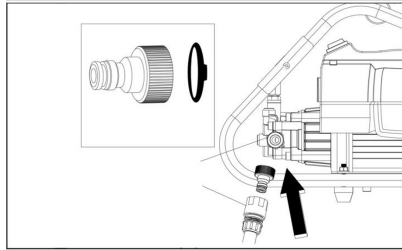

Figure 7: Type the caption here
Connect the garden hose adapter (accessory) to the Water Inlet (8) as shown in Figure 7. Once attached, connect your garden hose to provide a mains water supply.